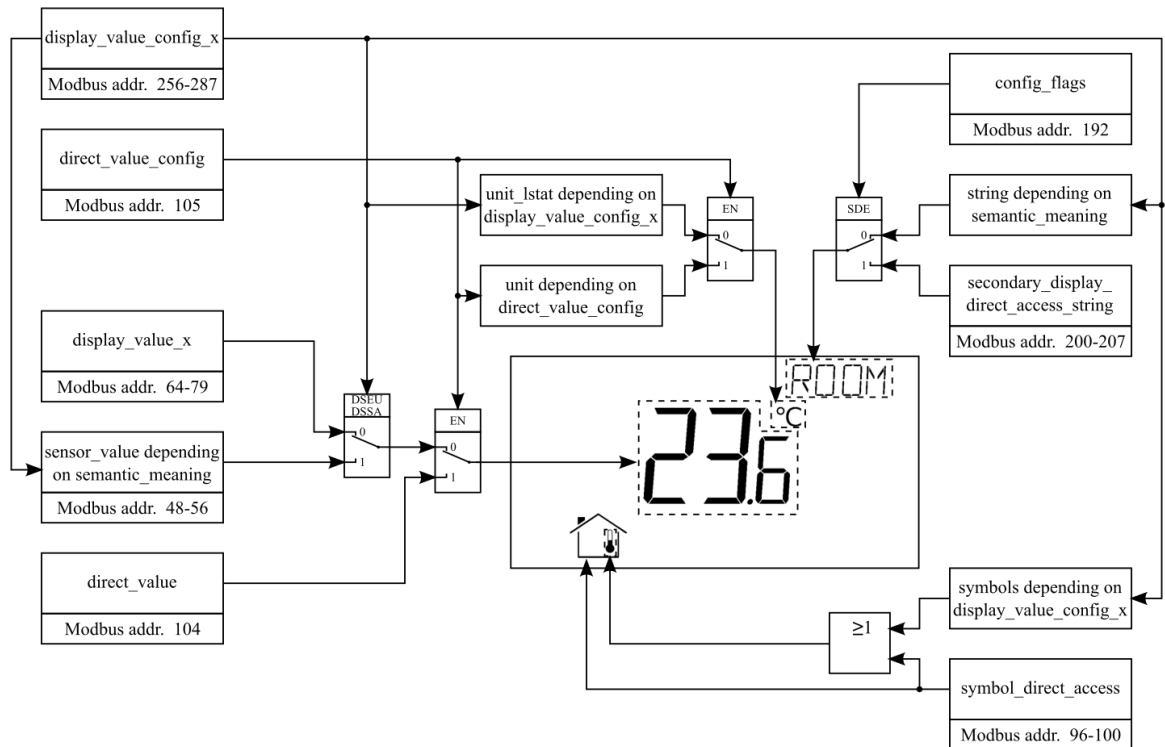

Figure 8: Modbus Register Usage for Value Display
The following Figure 8 shows, which Modbus registers have influence on a displayed value, unit, text on the secondary display or symbols. Depending on settings in configuration registers different combinations are possible to achieve the desired result.
<p>① A sensor value can be used as source for a display value. Therefore the DSSA or DSEU bit as well as the semantic meaning at the corresponding display value configuration at address 256 to 286 has to be set (see Table 31 on Page 44). If the DSSA or DSEU bit is set this specifies that a sensor value is used instead of a display value. The semantic meaning specifies which sensor value is used as source for displaying. For an overview on this topic please see Figure 8 on Page 25.</p> <p>② Sensor_value_0, sensor_value_1 and sensor_value_3 are 16 Bit signed values. All other sensor values are defined as 16 Bit unsigned since there are no negative values to expect. The values are scaled as described in Table 42 at Page 58.</p>
<p>① The DSSA or DSEU bit at the corresponding display value configuration at address 256 to 286 has to be cleared to display the content of a display value register (see Table 31 on Page 44). If the DSSA or DSEU bit is cleared this specifies that a display value is used instead of a sensor value. The semantic meaning specifies which text is displayed along with the specific display value. For an overview on this topic please see Figure 8 on Page 25.</p> <p>② All registers are 16 Bit signed values. Depending on the <code>odbus_unit</code> specified with the corresponding display value configuration register at address 256 to 287 (Table 31 at Page 44) the value needs to be scaled as described in Table 42 at Page 58 to achieve the desired result.</p>